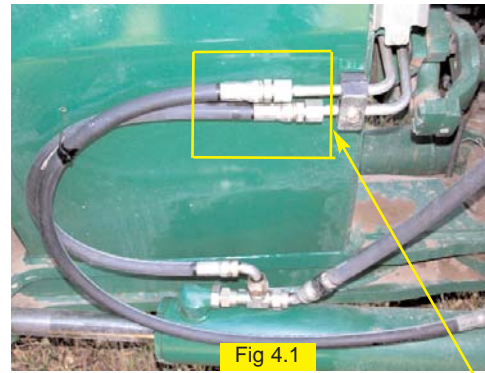
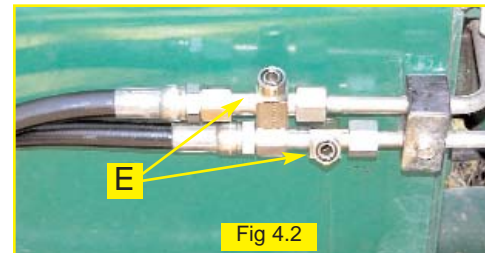
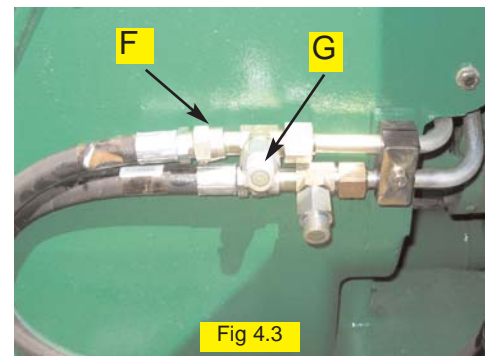

Fig 4.1
Fig 4.2
Fig 4.3
Locate steering lines on the right side of the tractor on the center section above the right steering cylinder. (Figure 4.1) Install run-tees (E) at the junction of the steel and rubber portions of the steering lines as shown. (Figure 4.2)
Locate steering lines on the right side of the tractor on the center section above the right steering cylinder. (Figure 4.1) Install run-tees (F) and fitting (G) at the junction of the steel and rubber portions of the steering lines as shown. (Figure 4.3)